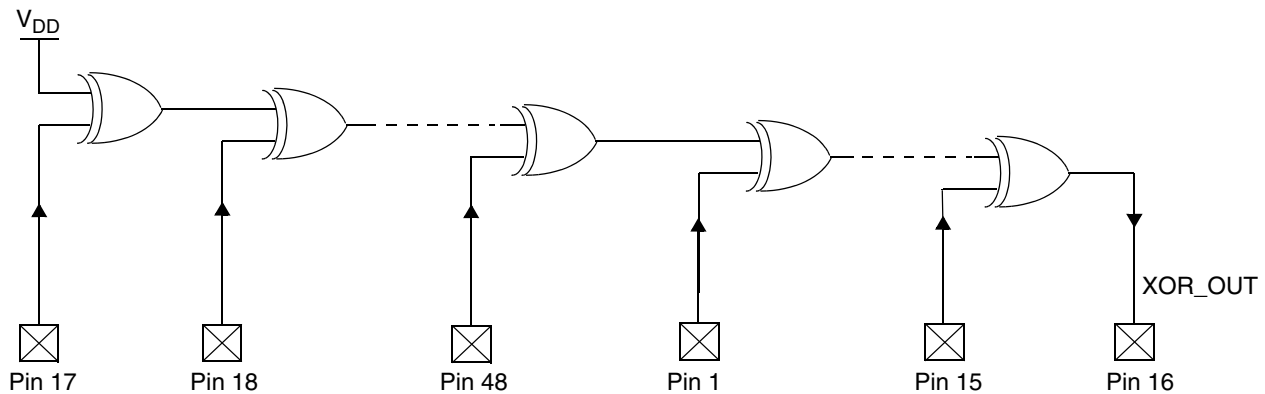

Figure 2. XOR Tree (Simplified Diagram)
In XOR Tree mode, all WPCN381U pins are configured as inputs, except the last pin in the tree, which is the XOR_OUT output. The input pins are chained through XOR gates, as shown in Figure 2. The power and ground pins (VDD, VSS, VCORF) are excluded from the XOR Tree. During XOR-Tree testing, the Not Connected (NC) pins must be pulled low.